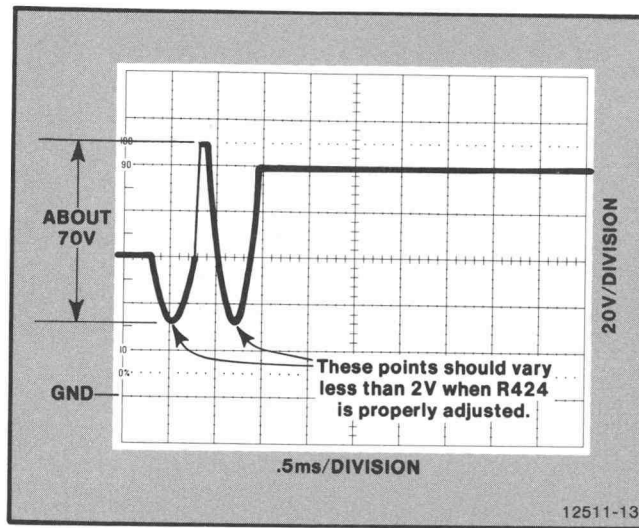

Figure 4-13. Dynamic Focus Waveform.
3. **Adjust** R424 (the Dynamic Focus control, at the lower center of the Deflection Amplifier board) so that the lowest portion of the waveform changes less than 2 volts as R21 (CORNER FOCUS adjustment -- High Voltage and Z-Axis board) is ranged from one extreme to the other. See Figure 4-13.